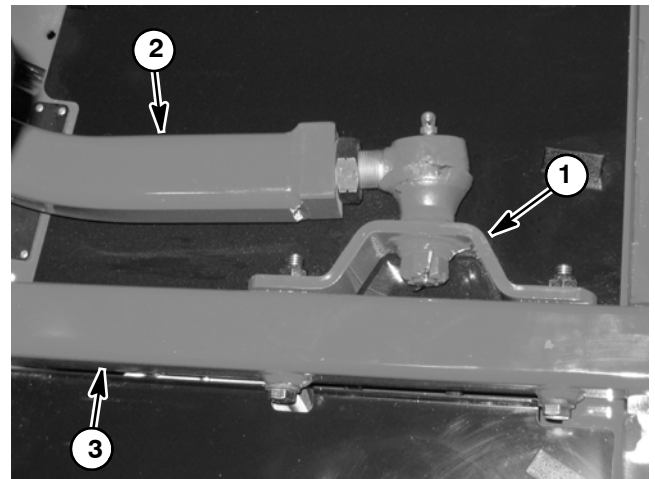

Figure 4
5. Remove cap screws, washers and lock nuts securing ball joint mounts (item 14) to center deck castor arms (Fig. 4).
3. Align ball joint mounts (item 14) to center deck castor arms and secure with cap screws, washers and lock nuts (Fig. 4).